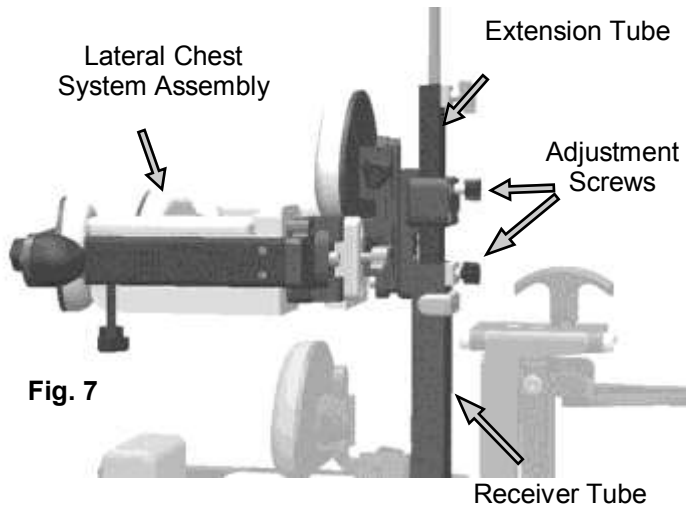

Fig. 7
- Slide the Extension Tube into the top of the Receiver Tube. Set pads at proper heights and tighten both adjustment screws (fig. 7).